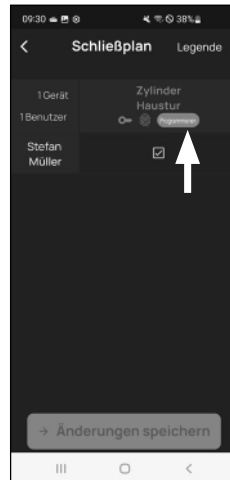

Fig. 4
- If any changes have been made to the locking plan, the display of the respective cylinder appears red and the "Program" button is displayed. This indicates that the settings have not yet been transferred to the cylinder. To do this, tap the red "Program" button for the respective cylinder (Fig. 4).